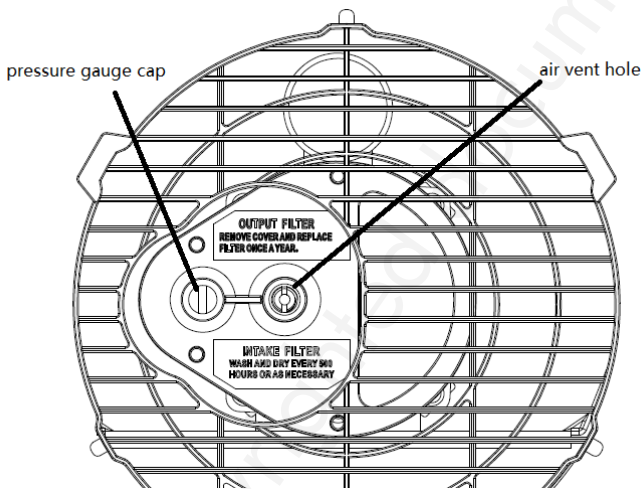

Figure 5
**Compressor pressure adjustment (figure 5)**
Due to lower oxygen rate with reference to installation on sea level, it may be necessary to reduce the compressor pressure (figure 5). This setting adjustment can be necessary to maintain a good combustion due to lack of oxygen.